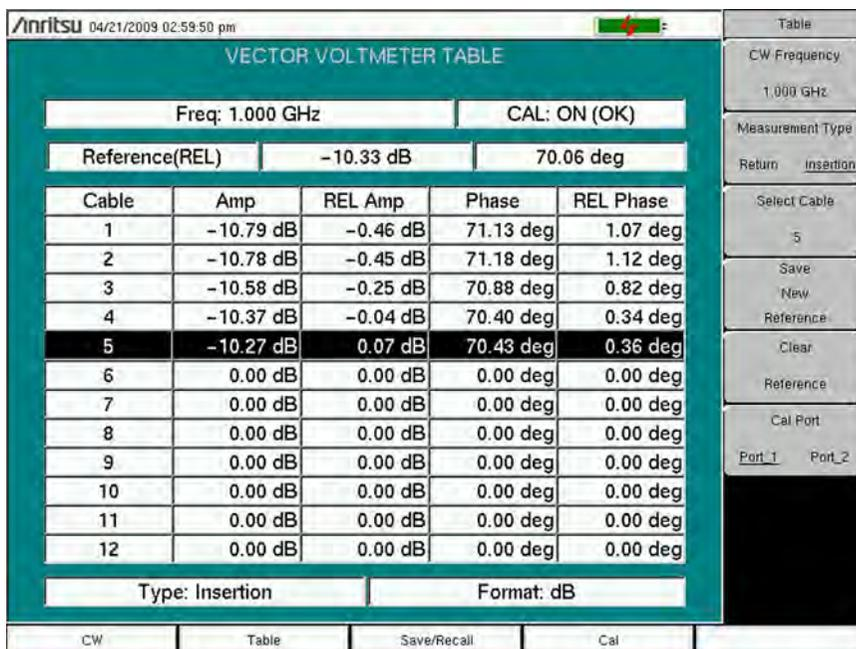

Figure 11-7. Vector Voltmeter Relative Measurement Table
- As shown in Figure 11-7, the VNA Master saves the current measurement in a new reference window above the table and updates the REL Amp and REL Phase columns to display the difference between the current measurement and the saved reference measurement.